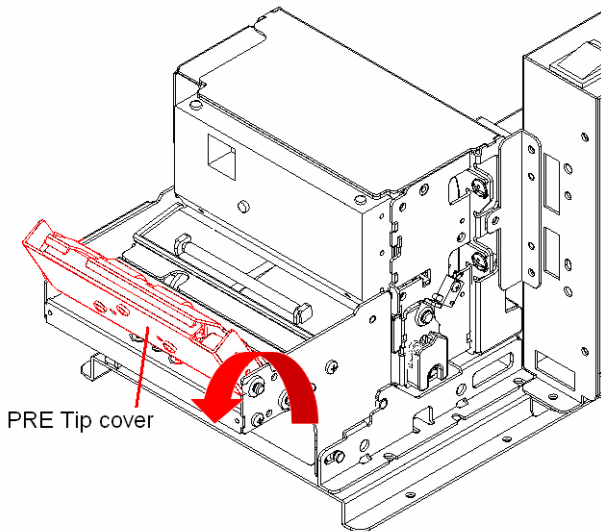

Fig.5.2-7 Cleaning paper load sensor
2. Force on the direction shown in Fig.5.2-7 until PRE top cover is turned and open;
- Shown as in Fig.5.2-7, turn and open PRE top cover;
1. When uplifting the PRE upper cover along the arrow direction (refer to Fig.5.2-7) , the path of presenter open completely;